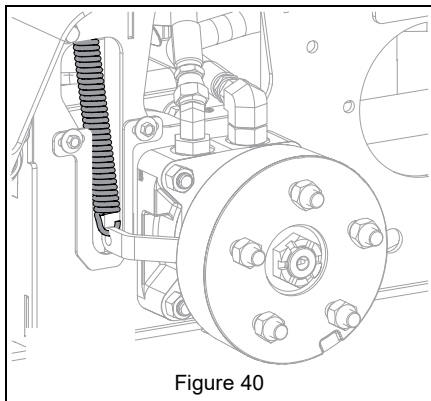

Figure 40
**IMPORTANT:** With parking brake engaged, spring extension is minimal. The extension gap between the spring coils should be between 0.13 – 0.25 mm (0.005 – 0.010") if a feeler gauge is used. See Figure 40.